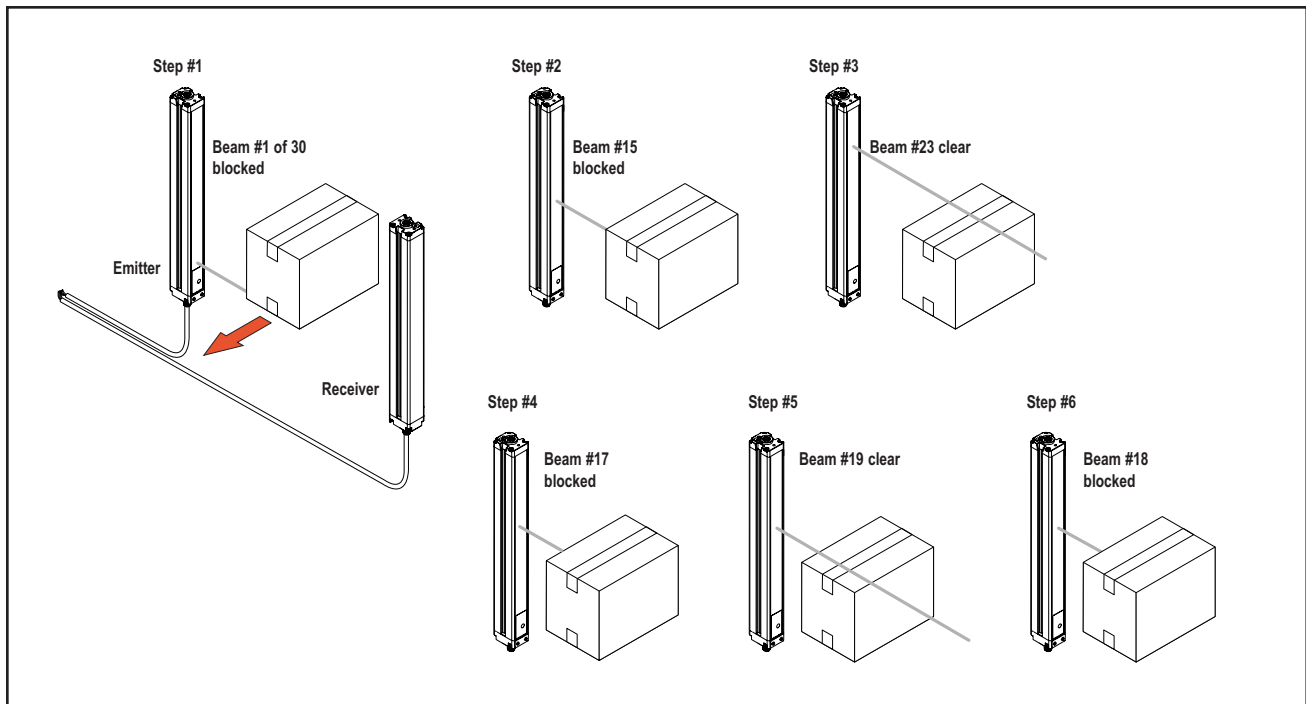

Figure 1-7. Finding an edge using a binary search (single-edge scan)
1. The receiver scans only the first beam until it is blocked (see Figure 1-7).